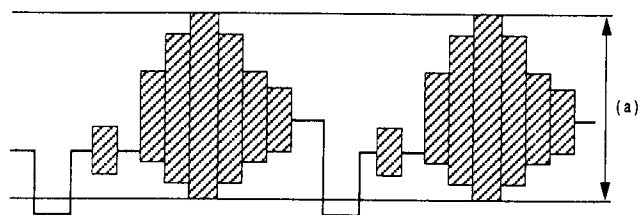

Figure 4
- e) Tilt the front of the yoke right of left to obtain the convergence in circumference. (See Fig. 4).